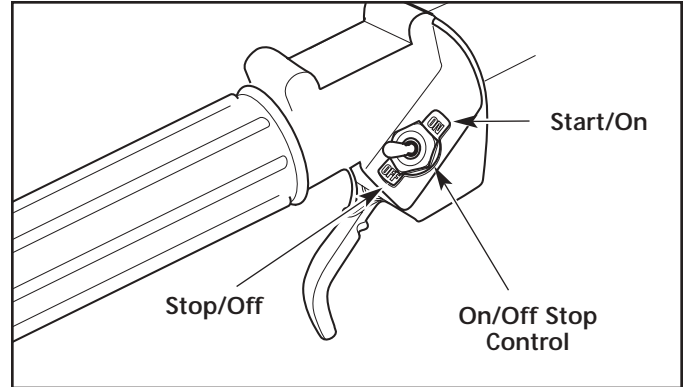

FIGURE 6
3. Put the Start/Stop Control in the **START** position. See Figure 6.
1. Put the On/Off Stop Control in the **START** position. See Figure 6.
2. To stop the engine, put the On/Off Stop Control in the **STOP** position. See Figure 6.